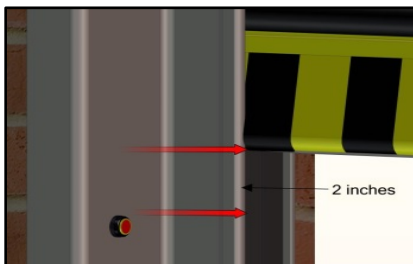

Figure 38
4. Lower the curtain panel until the bottom edge is 2 inches above the photo eye sensors. (See Figure 38).